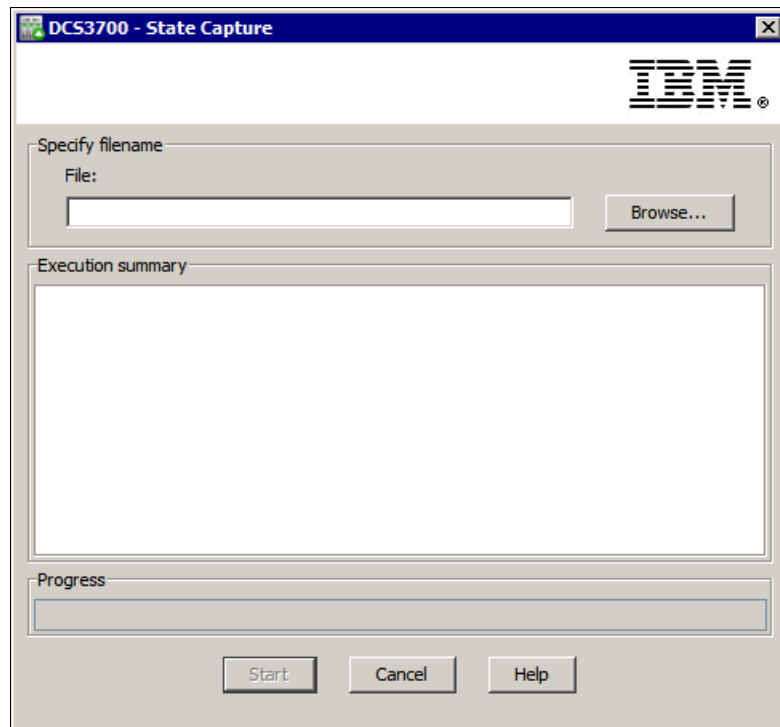

Figure 13-20 State Capture
1. In the DS Storage Manager (Subsystem Management) window, click **Monitor** → **Health** → **Capture State Information...** to open the State Capture window, which shown in Figure 13-20.